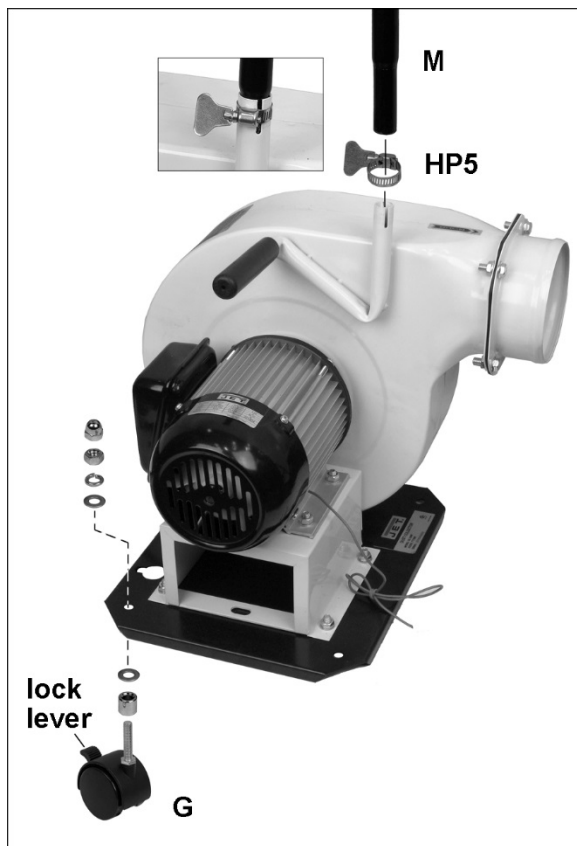

Figure 5-3
1. Install casters (G, Figure 5-3), to base, using the fasteners supplied with each caster, in the order as shown. Tighten the hex nut and cap nut to secure.